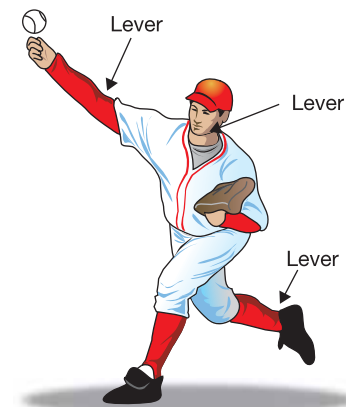

Figure 17.13: Use the diagram to answer question 6.
6. The picture in Figure 17.13 shows the location of levers in the human body. For each lever in the diagram: